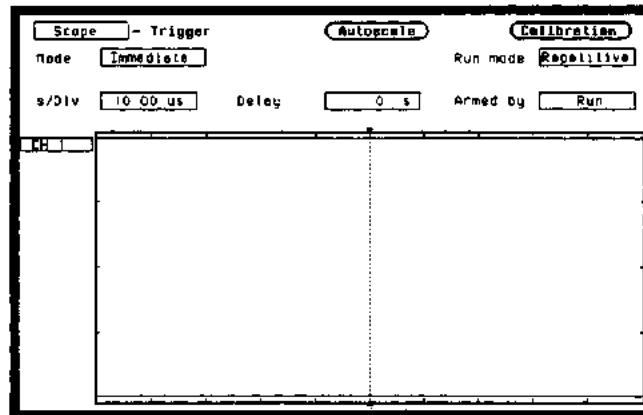

Figure 3-51. Trigger Menu
- Press the TRACE/TRIG key and set the Mode to Immediate and the Run mode to Repetitive as in figure 3-51.
6. Press **TRACE/TRIG** and set the **Run mode** to **Repetitive** and trigger **Level** to **0 V** as in the previous figure 3-51.